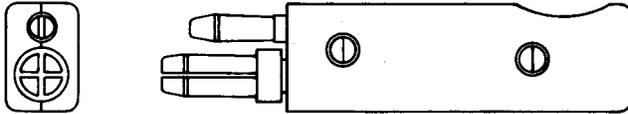

Fig. 21—367A Plug
2.11 367A: The 367A (Fig. 21) is a twin plug that has metal fingers electrically connected together. The 367A plug is for use with a 247A jack mounting equipped with 92-type jacks. The 367A plug is used in the No. 2 Telegraph Service Board to take a line out of service.